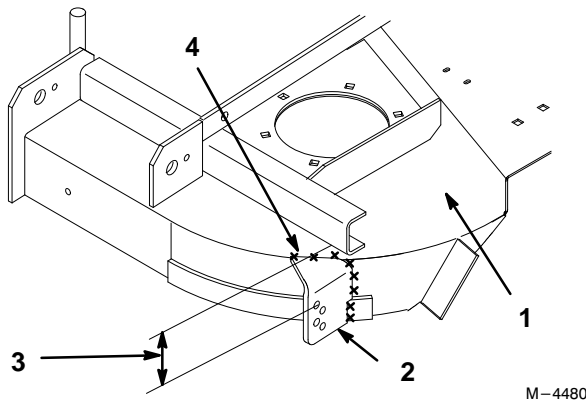

Figure 4
2. Measure 1-5/16 in. down from the top of the deck to the center of the top hole in gusset (Fig. 4).
3. Hold wheel bracket and mark mounting location (Fig. 4).